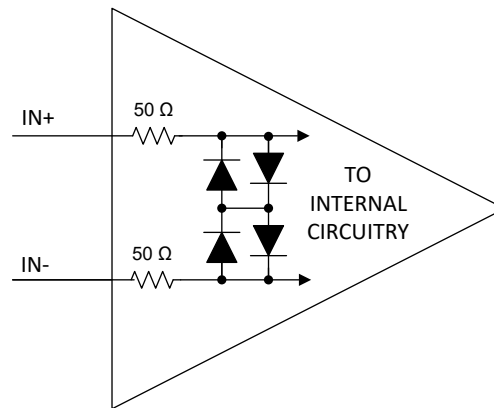

图 7-1. Input Stage Circuitry
The TLV380x/TLV3811(C) feature an input stage, capable of operating between 1.5 V above VEE (GND for TLV3811(C)) and 0.1 V above VCC, with an internal ESD protection circuit that includes two pairs of front-to-back diodes between IN+ and IN- as well as two 50 Ω resistors, as shown in 图 7-1. This prevents damage to the input stage by limiting the differential input voltage to be no more than twice the diode's forward-voltage drop  $2 \times V_F$  ( $2 \times 0.7$  V).